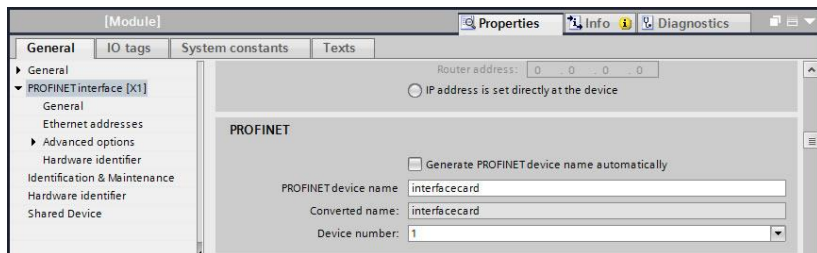

Figure 71: Assign Unique Device Name
2. Assign a unique **PROFINET device name** as shown in Figure 71.